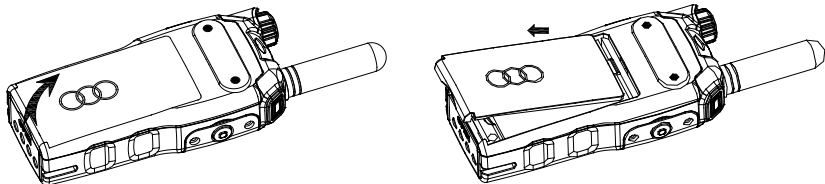

Figure 3
1. If the battery cover is already in place, use the fingers to press down the three circle position and in the meantime use the thumb to pull up in the direction of arrow from the bottom side OPEN slot. Then lift the rear cover and remove it from the radio's body, as shown in Figure 3.